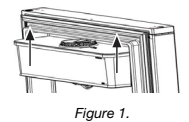

Figure 1.
1. With both hands, grasp the water storage tank and tilt it slightly upwards, then pull upwards until the tank completely disengages from the refrigerator door (see figure 1).